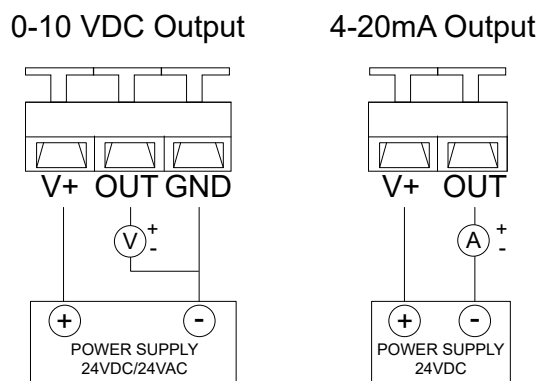

Figure 7 AcuTEMS IM Wiring Terminals for Temperature Transmitter
**NOTE:** If using 4-20mA signal output, the sensor must be powered with 18.5~35VDC (RL=500Ω) power supply. Ensure that the analog input common reference of the BAS controller, PLC, and Automation Panel is connected to the DC power supply common to complete the circuit. The device will not work if the common references are not connected. See Figure 7 below.